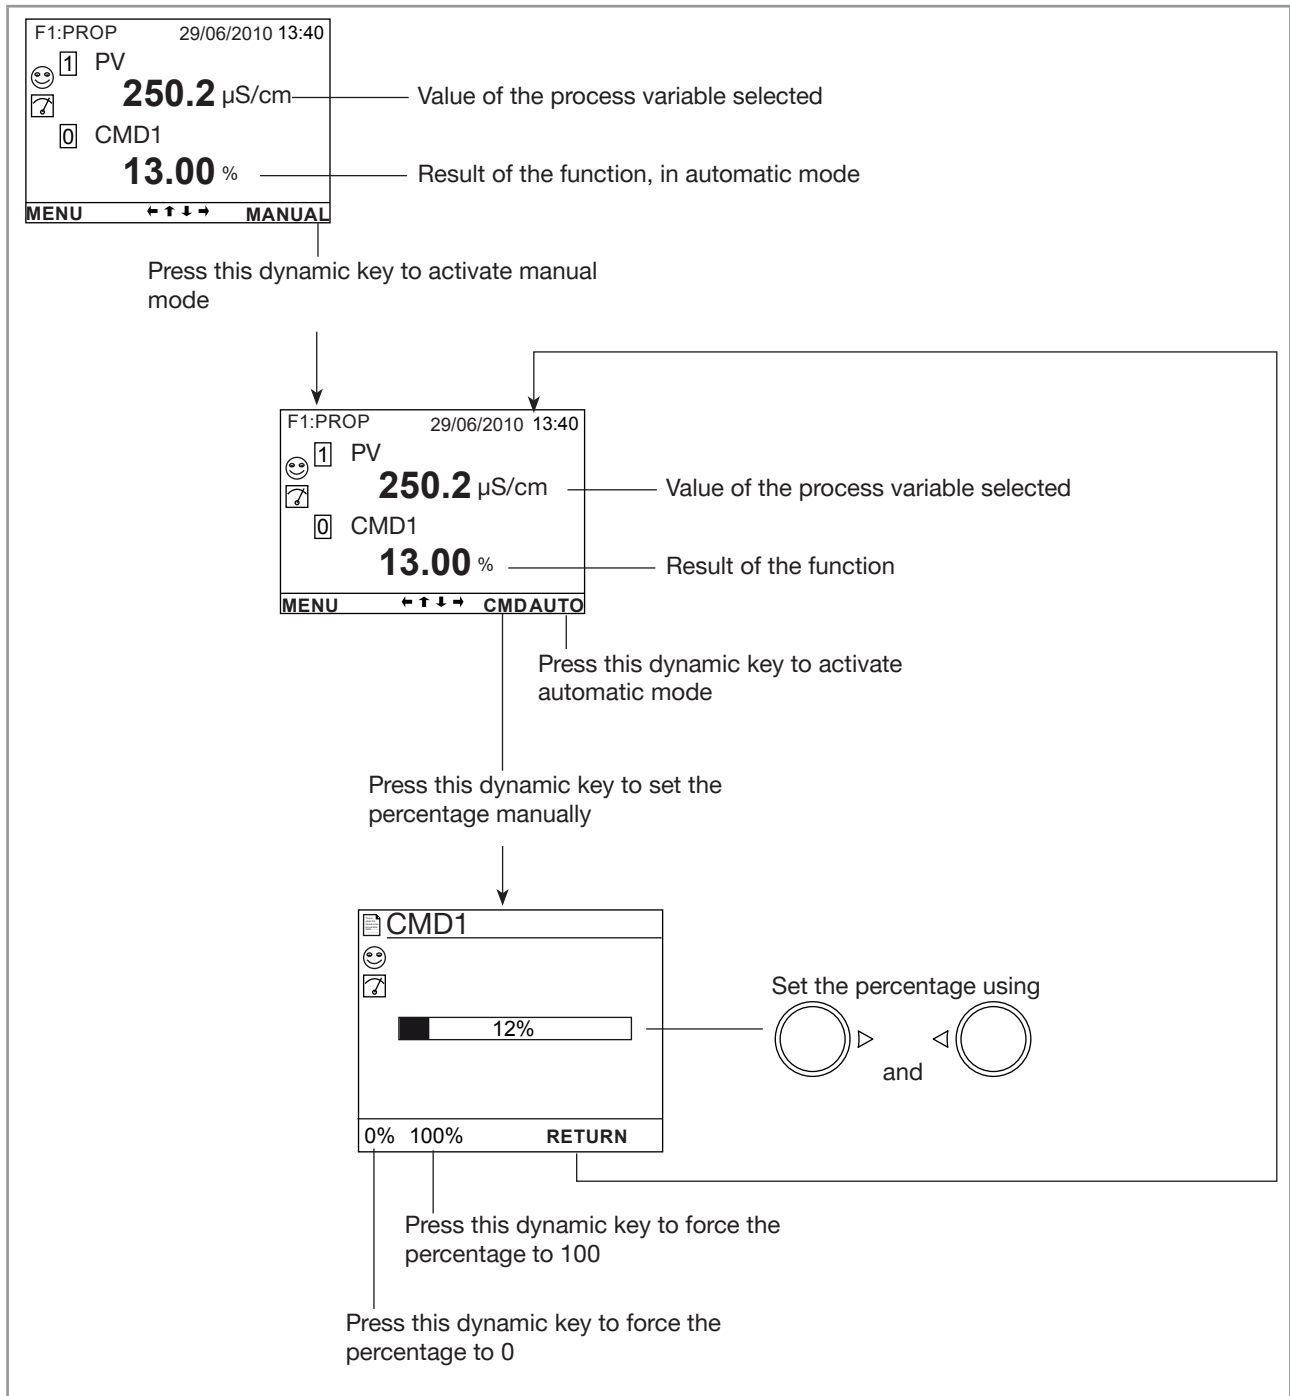

Fig. 65: Examples of a view of a "PROP" function in Process level and switch to manual or automatic mode
- ON: the mode cannot be modified in the Process level without entering an access code. Refer to Fig. 65. To switch the mode between the manual mode and the automatic mode, first enter the access code of the "Parameters" menu. The default access code is "0000" (see section 9.4).